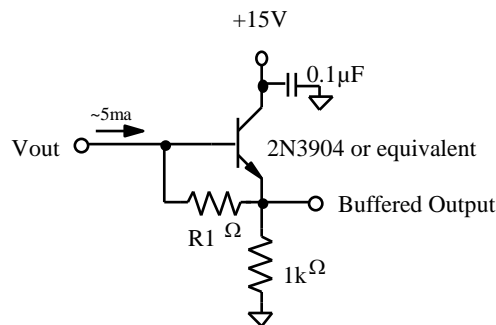

Figure 7: Typical Output Structure Load Diagram
1. An output load sink must be applied to Vout to activate output amplifier - see Figure 7 below.